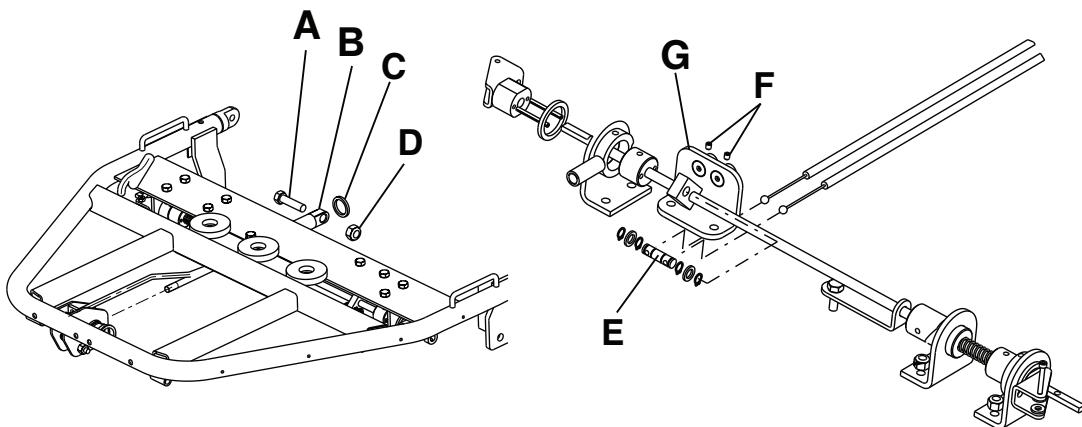

Figure 19 – Leg section cable replacement
6. Using a 5/16" hex wrench and a 5/8" combination wrench, remove the bolt (A), washer (C), and nut (D) that secure the gas cylinder (B) to the frame (Figure 19). Save all parts.
8. Using a 1/4" nut driver, remove the screws (A) that secure the locking link covers (B) to the frame (*Leg section locking link replacement* (page 29)). Save the screws.
9. Reconnect the foot cylinder to the frame and insert the bolt (A) (removed in step 6) (Figure 19).
11. Using two 7/16" combination wrenches, loosen the cable retainer (D) and the nut (N) on the locking linkage (*Leg section locking link replacement* (page 29)).
12. Pull the ball end of the cable at the cable pivot (E) to remove the worn or damaged cable from the cable cover (Figure 19).
13. Using a 5/64" hex wrench, remove the set screws (F) on both ends of the cable cover. Remove the cable cover.
14. Install the supplied cable cover by inserting each end into the respective cable end stop (G).
15. Apply Loctite 242 to the set screws and reinstall the set screws (F) (removed in step 13) at the cable stops (G). Do not overtighten the set screws. Overtightening the set screws can crush the cable cover and prevent proper cable movement.
16. Insert the supplied cable through the cable pivot (E). Feed the cable into the large diameter side of the cable pivot (E).